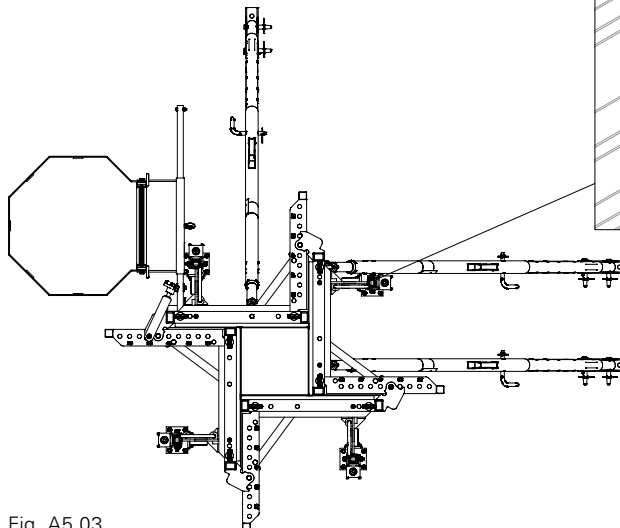

Fig. A5.03
1. Mount four transportation wheels QUATTRO (7) on the closed formwork. The tube supports of the eccentric plate (7.1) are pointing upwards. (Fig. A5.03 + A5.03a)